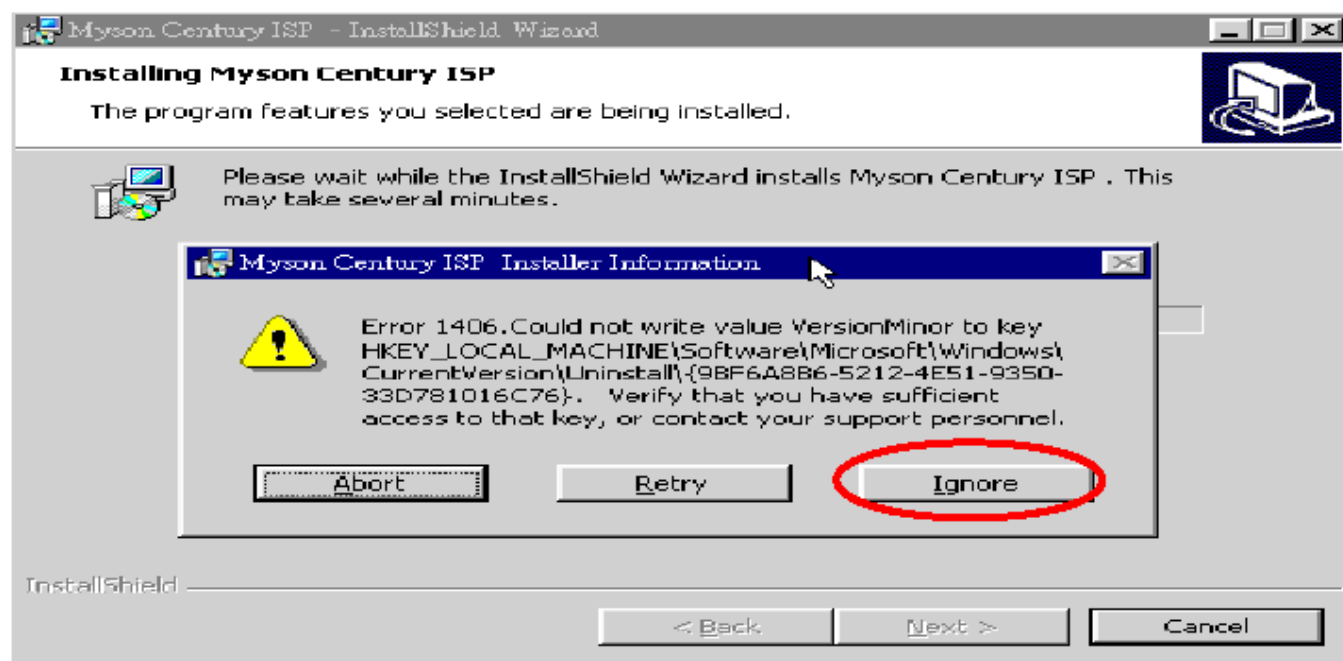

Fig 2.6
2.6 The Installer Information shows package warning, press “ Ignore ” button to continue, see Fig 2.6.